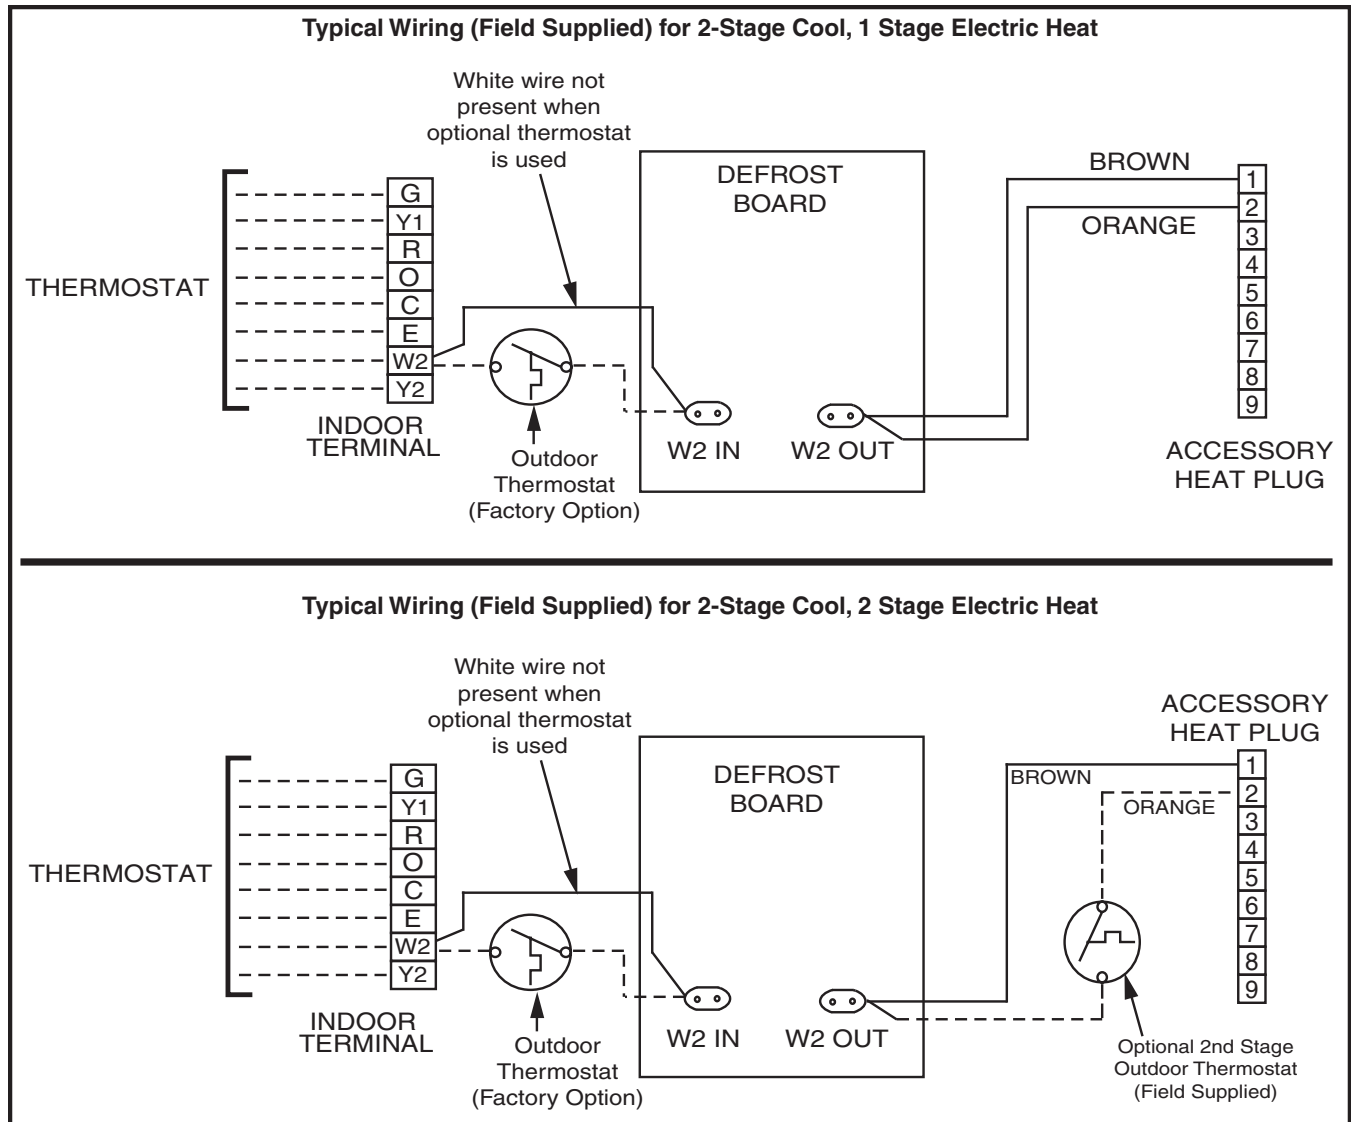

Figure 8. Typical Heat Pump Thermostat Connections
- Connect the low voltage wires to the respective terminals on the thermostat base. See Figure 8 and the thermostat instruction sheet for more detailed wiring information.